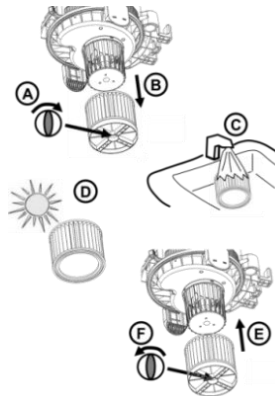

Figure 10
- a. Turn switch off (0) and unplug power cord from the electrical outlet.
- d. See Figure 10. Remove cover plate and fasteners (B,C,D).
- e. Remove the HEPA filter (A) or foam filter (E).